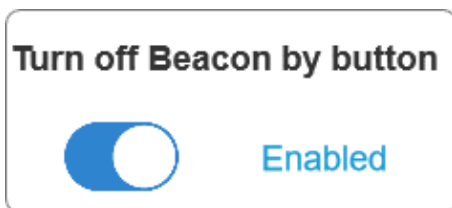

Figure 35: Disable button power off function
Step 1: Install iTunes in PC and then import firmware upgrade package into APPLE phones, you can refer to below picture demonstrations – **Figure 35: Load upgrade package to nRF connect APP via iTunes.**